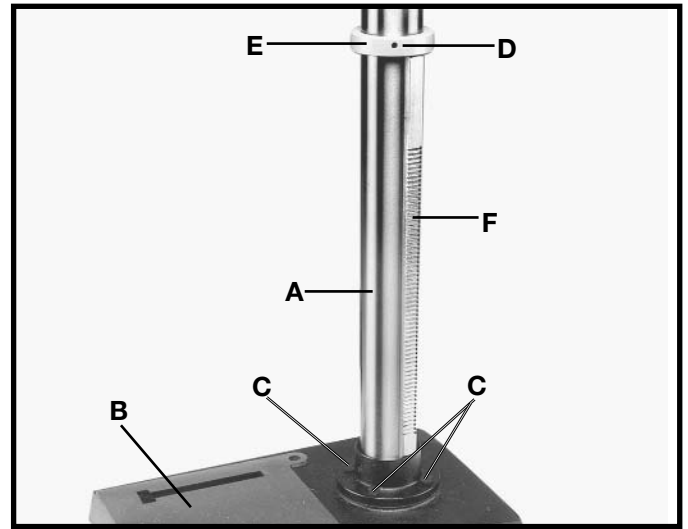

Fig. 3
1. Assemble the column (A) Fig. 3, to the base (B) using the four screws, three of which are shown at (C). Loosen set screw (D) and remove ring (E) and raising rack (F).